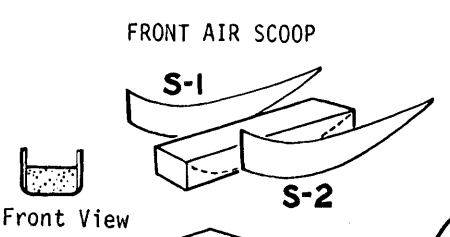
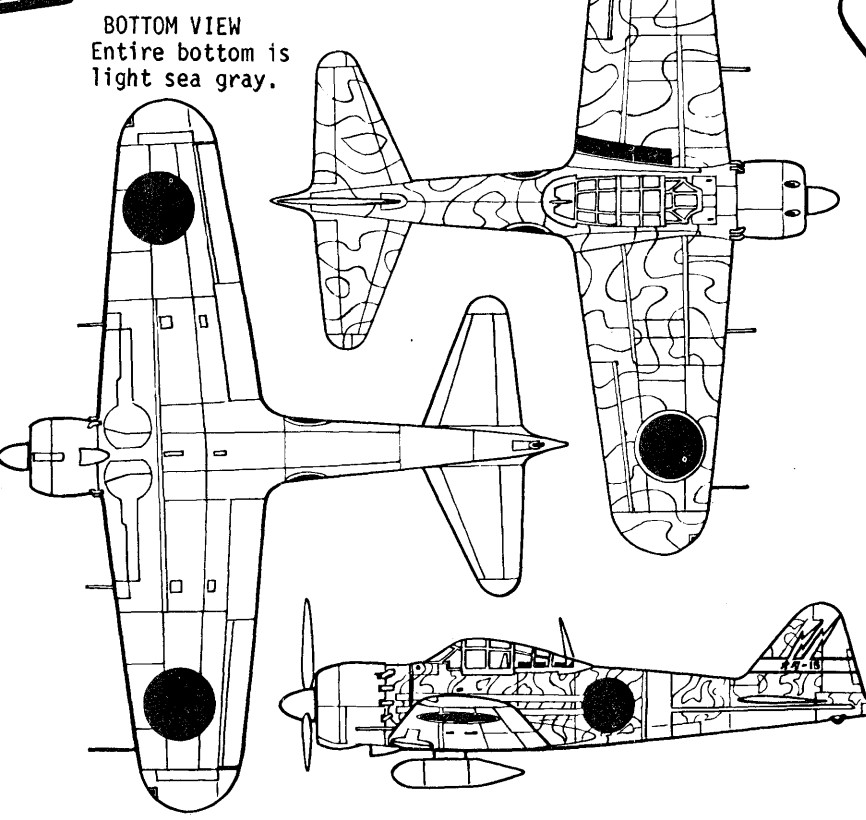

Fig. 19
Fig. 20
STEP 18. To assemble front air scoop, sandwich S 1 and S 2 to a piece of scrap balsa and trim as indicated (Fig. 19). Round bottom edges by sanding. Construct external fuel tank using Fig. 19 and FIG. A as a guide. Glue air scoop, external fuel tank and oil cooler to underside of fuselage (Fig. 20).